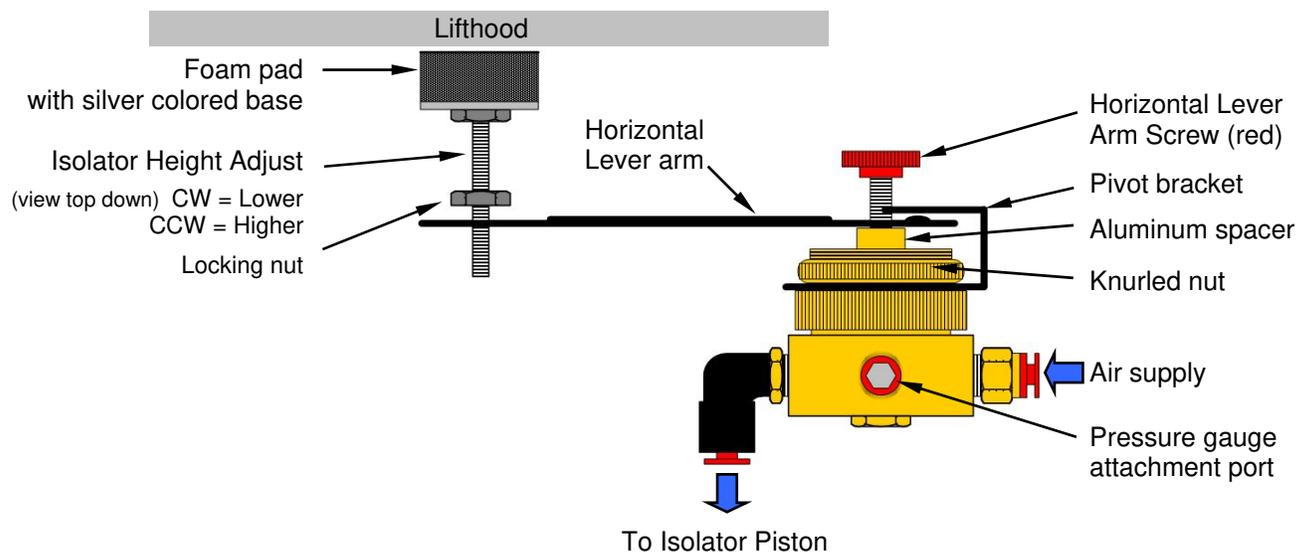

Figure 9 Height Control Valve
Step 22 Tighten *locking nut* on **ISOLATOR HEIGHT ADJUST** on all three valves as shown in figure 9, *Height Control Valve*.